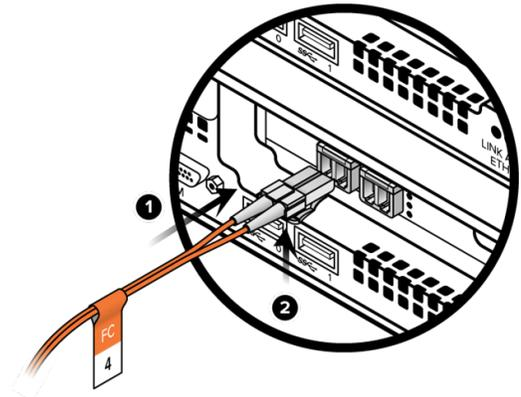

Figure 13-21. Connecting a Host Cable (FC Shown)
2. Push the connector into the transceiver (optical) or port socket (10-GbE copper). See Figure 13-21.